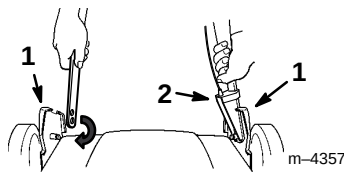

Figure 1
2. Insert the left end of the lower handle and cable guide onto the pin on the left mounting bracket (Fig. 1).
3. Install the right end of the lower handle onto the pin on the right handle mounting bracket (Fig. 1).